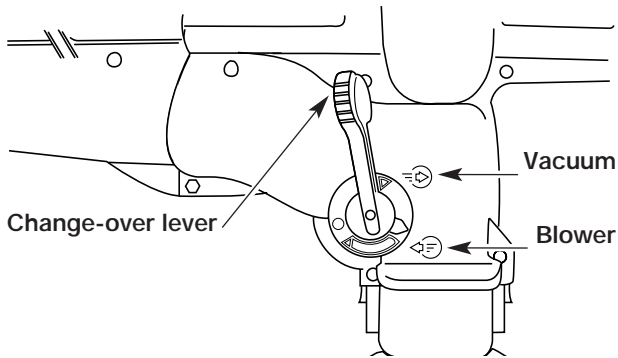

Fig. 14
3. Set the blower/vacuum mode change-over lever to the up position (Blower Mode) (Fig. 14).